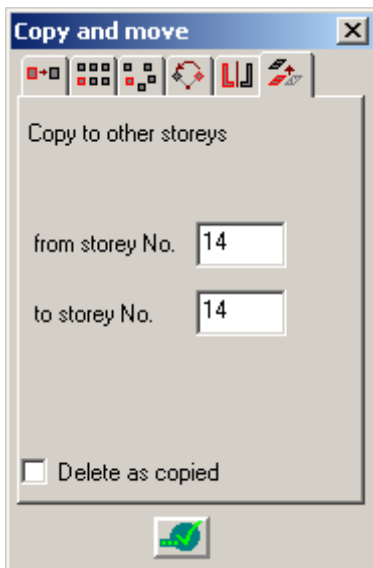

Figure 1.14.6 **Copy and move** dialog box (**Copy to other storeys** tab)
- select the **Copy to other storeys** tab  (see Fig.1.14.6);